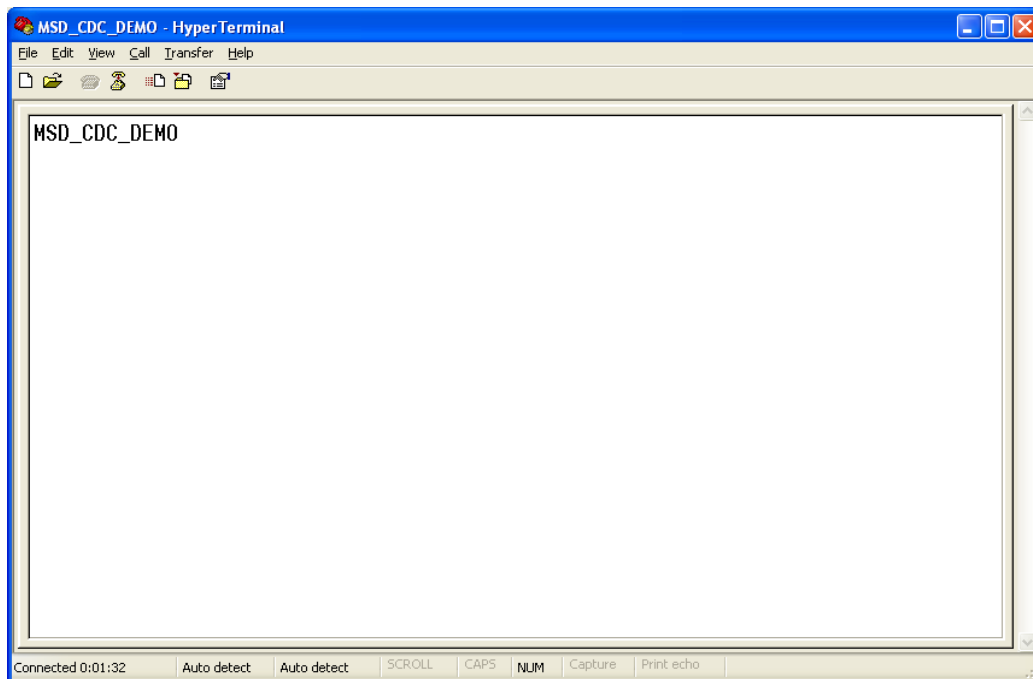

Figure K-31. MSD_CDC_DEMO HyperTerminal
8. In MSD_CDC_DEMO window enter: "MSD_CDC_DEMO " string. The string will display on HyperTerminal window as shown as in Figure K-31